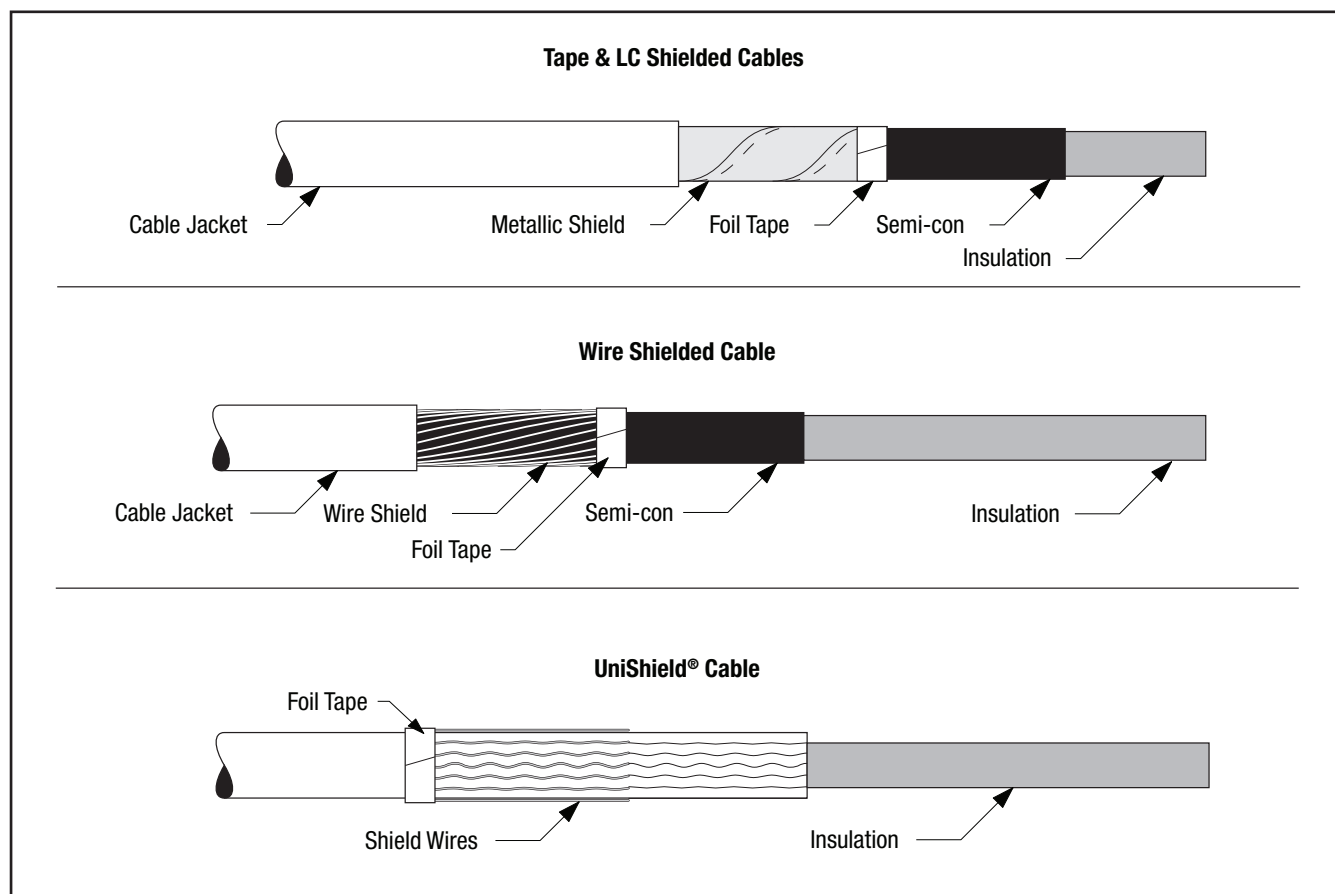

Figure 2
2.3 Secure end of each metallic shield or wires with a copper tape strip (*Figure 2*).